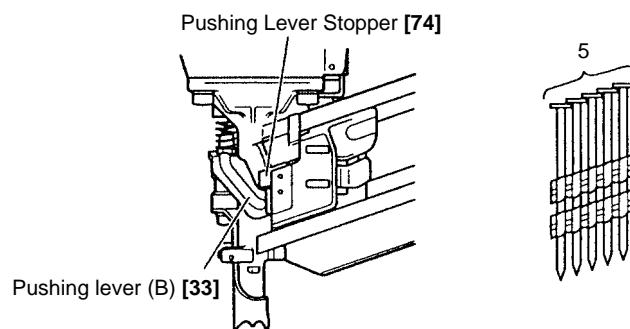

Fig. 3
The Model NR 90AC3 is equipped with a pushing lever stopper as an idling protector. The Pushing Lever Stopper [74] is placed over Pushing Lever (B) [33] to prevent Pushing Lever (B) [33] from being pushed up when no nail is loaded in the magazine or the number of nails remained in the magazine is five or less (depending on the types of nails). (See Fig. 3.)
As illustrated in Fig. 3, the Model NR 90AC3 can be generally divided into four sections: